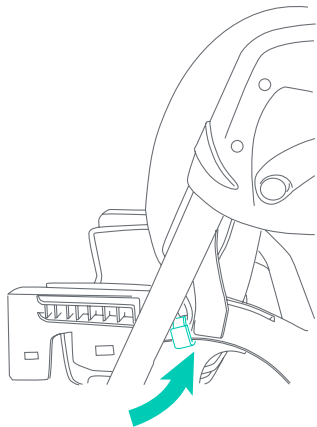
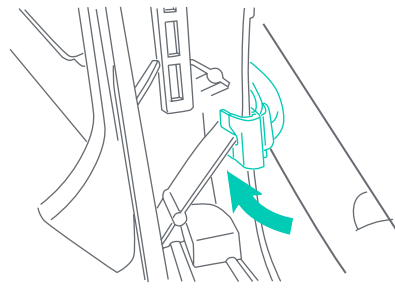

Fig. 9c
Fig. 9d
- Attach each anchor hook of the Seat Pad to the side of the seat armrest (Fig. 9c). Ensure that the slot of the anchor hook slides through the under side division (Fig. 9d).